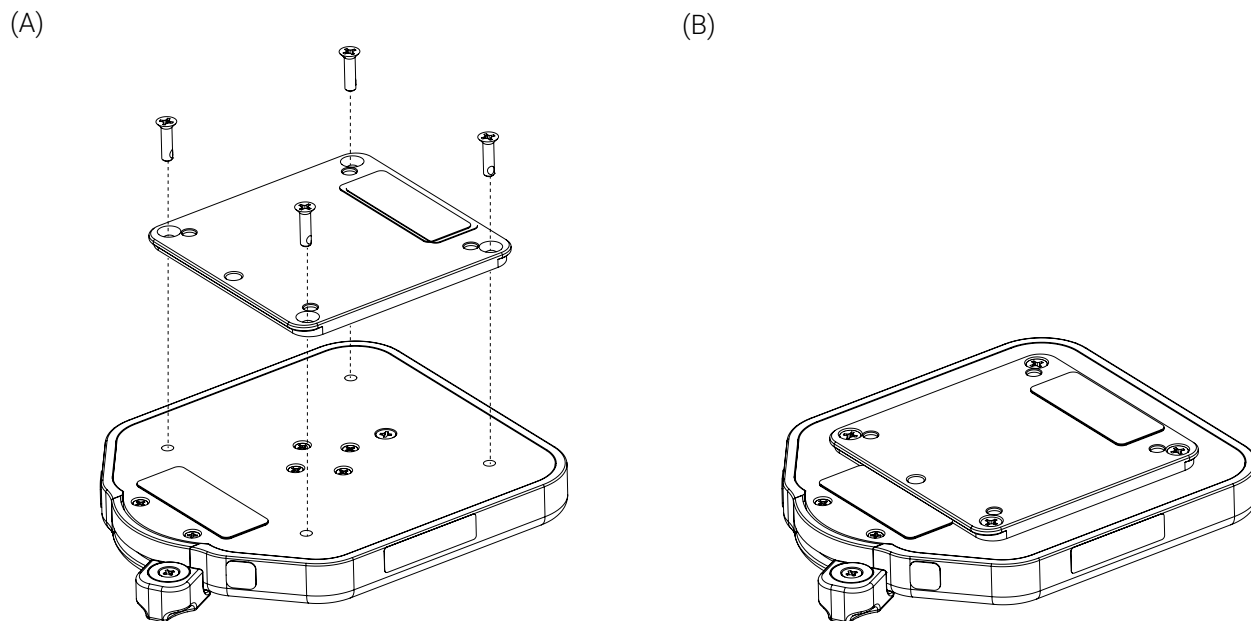

Figure 16: Installation of the base on the Flex Adapter
2. Flip the Universal Mounting Base, then place and secure the Flex Adapter on the base using four (4) 10-32 in. X 3/4 in. L flat head screws and a Phillips screwdriver #2 (Figure 16).